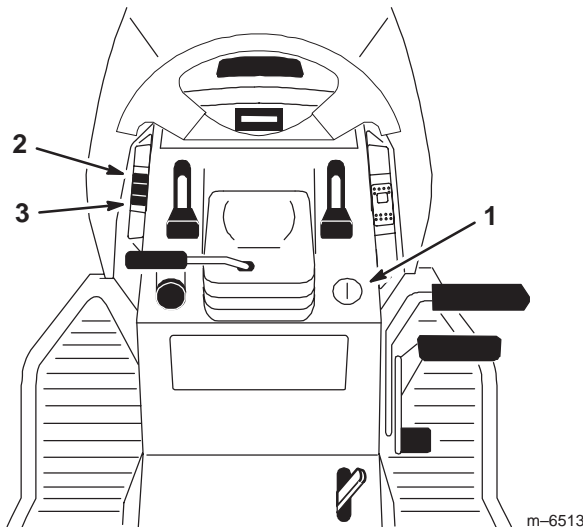

Figure 21
The attachment power lift (Fig. 21) is used to raise and lower attachments.
1. Turn key to the **on** or **run** position (Fig. 21).
2. Push the lift switch in the **up** direction to raise the attachment lift (Fig. 21). This will lift and hold the attachment in the up, or raised position.
2. Push the lift switch in the down direction to lower the attachment lift (Fig. 21). This will lower the attachment lift.